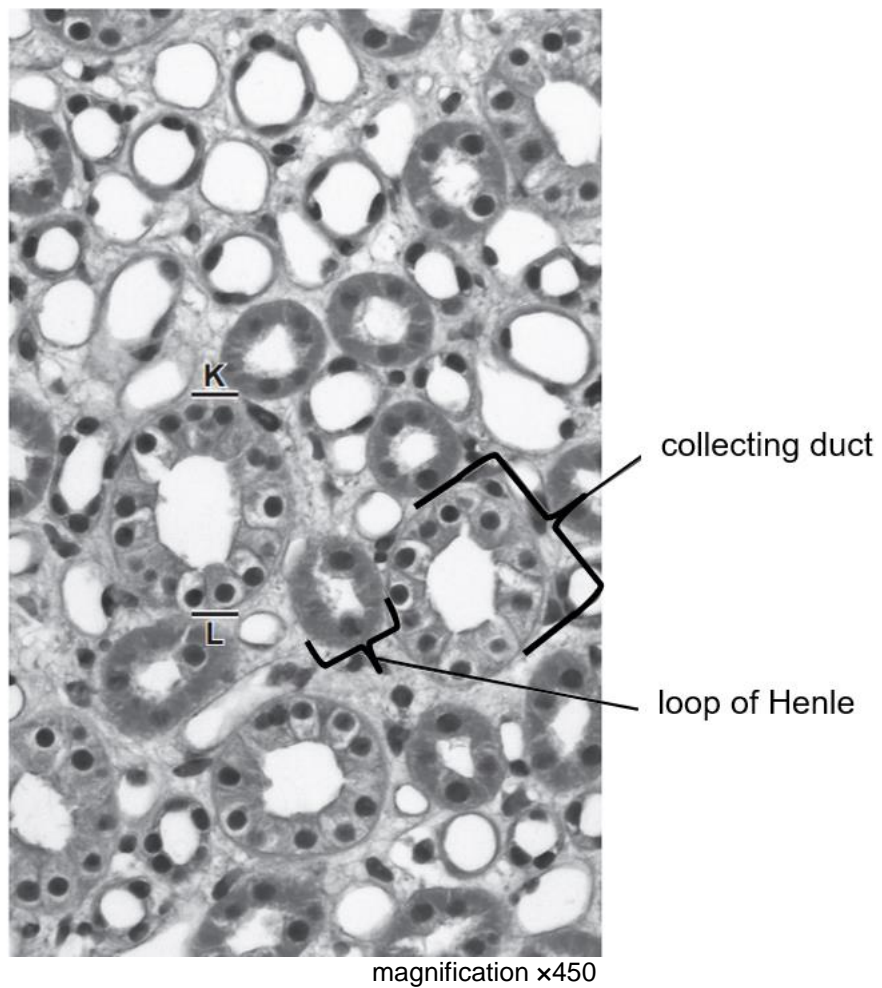

Fig. 3.1
- 3 Fig. 3.1 is a photomicrograph of a section through a kidney showing some kidney tubules.
- (a) Make a line drawing of the collecting duct **and** loop of Henle that are labelled in Fig. 3.1. Draw them as they appear in the photomicrograph. You should **not** add any labels.
Suggest how you could determine a more accurate measurement of the diameter of the **same** collecting duct in Fig. 3.1.